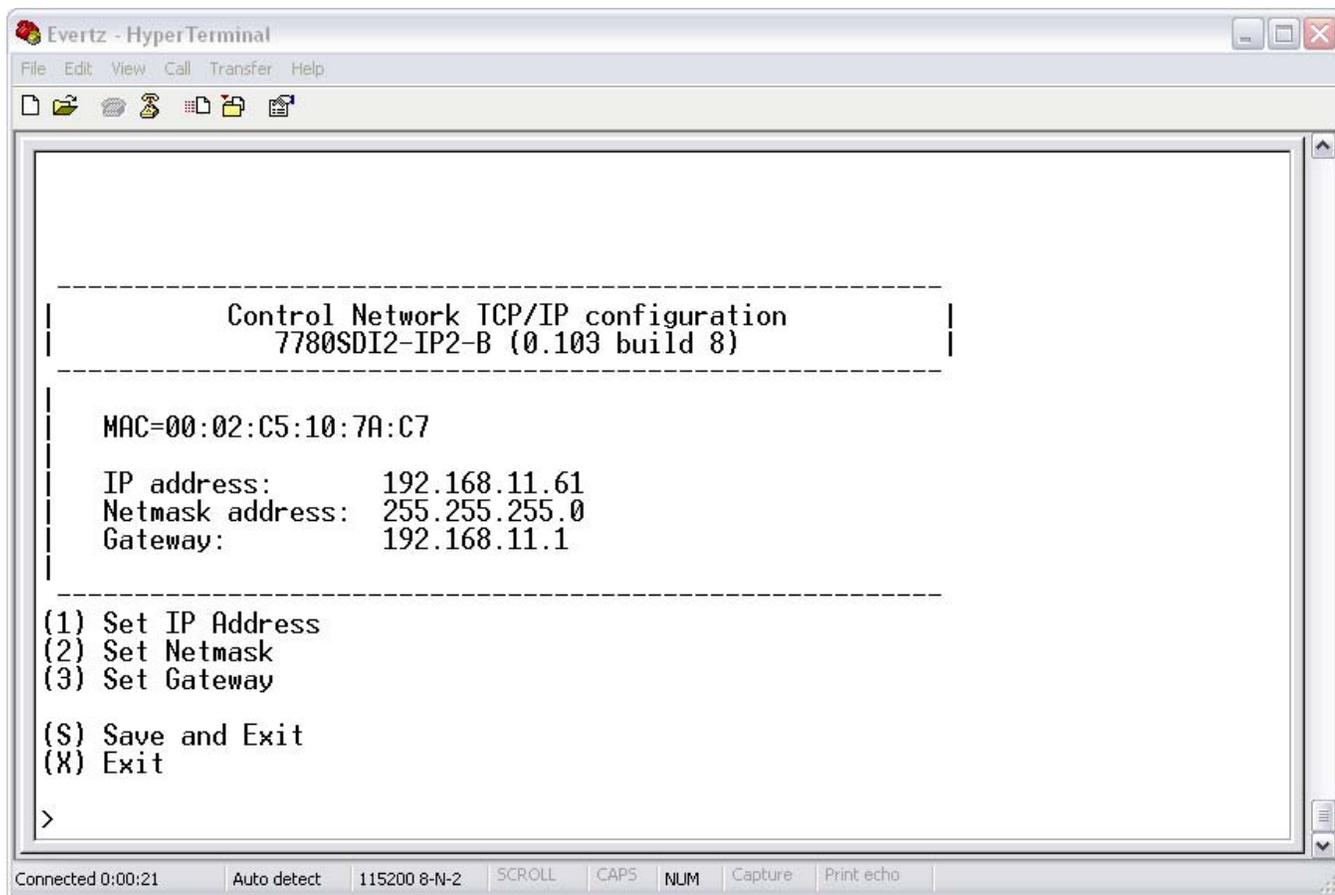

Figure 2-6: 7780SDIB2-IP2 Network Configuration Sub-Menu
From the terminal session window select option (1) *Control Network Configuration*, the Control Network Configuration menu will be displayed as shown in Figure 2-6.
1. Select option (1) *Set IP Address* and configure the card IP address, ensuring that the IP address is not already in use on the network.
2. Select option (2) *Set Netmask* and configure the correct subnet mask for your network.
3. If required, also configure option (3) *Set Gateway*.